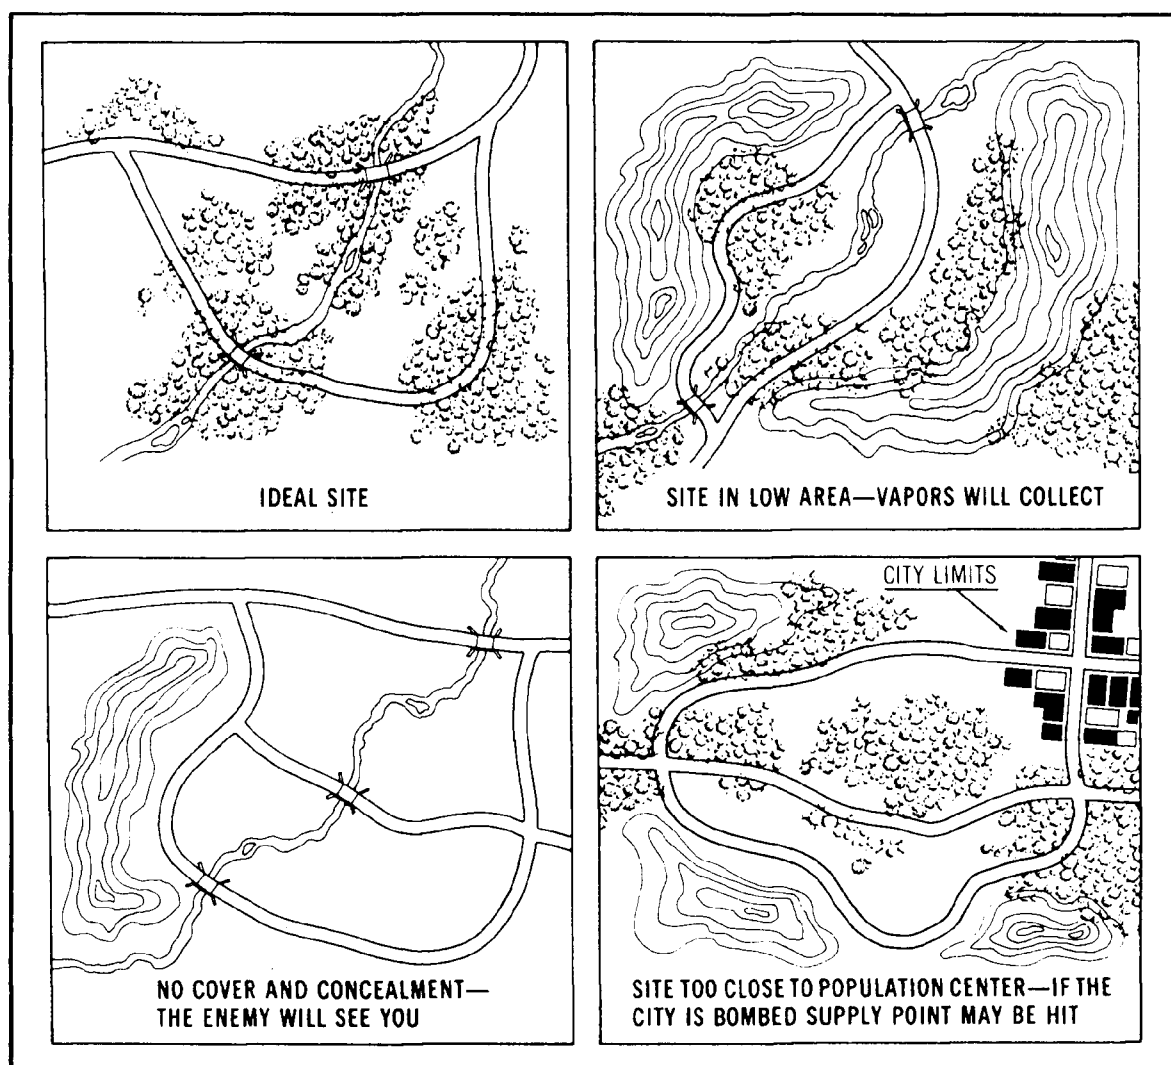

Figure 4-1. Site selection guidelines for a Class III supply point.
**Site Selection.** Select a reasonably level site that can hold container stacks. Choose a site with good drainage so that water does not damage the containers. Avoid low areas because dangerous vapors collect in them. Do not use an area with a cinder base or marshland and wasteland overlaid with peat; they are usually damp. Use such areas only if no other site is available. Be sure the site has natural cover and concealment and is large enough for future expansion. Do not locate near other areas of operation (Figure 4-1). Stay at least 500 feet away for low-flash products and 200 feet for high-flash products. Your site must be away from overhead electric lines so a broken wire cannot fall on the drums. Clear the site of all underbrush that may get in the way or present a fire hazard. Spread sand, gravel, or similar material over areas where you store containers. They help drain the area and provide a more stable base for the stocks. Do not use ashes or cinders because they are corrosive. Build a dike at least 18 inches high around each major storage division in which low-flash products are stored. This dike must be able to hold all the liquid in the drums stored in the area and have a freeboard of at least 6 inches. Choose a site for at least two clearing (incoming and outgoing) areas. These will be used to segregate incoming and outgoing mixed loads (railroad cars or truckloads). Each area should have its own site. The sites should be located next to each other so that the same personnel can operate both areas.